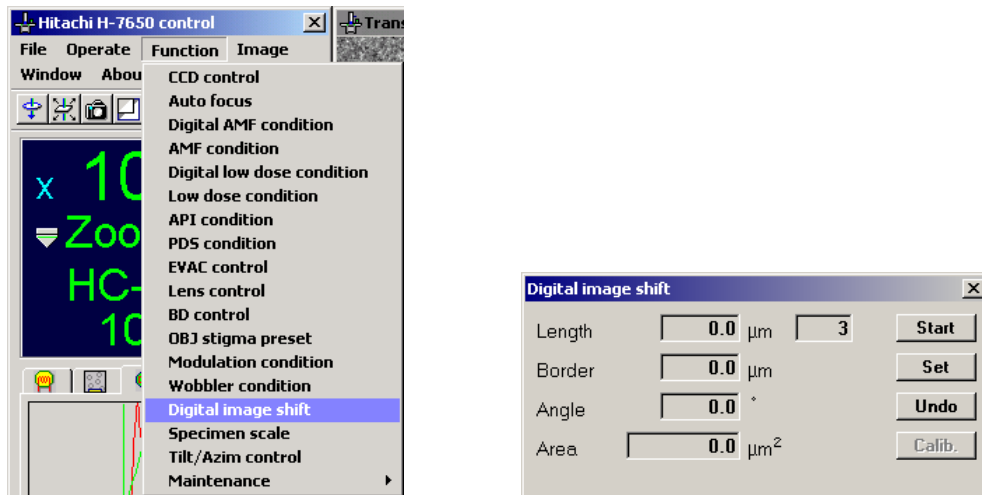

Fig. 3-170 Digital image shift Menu Item and Digital image shift Window
- (1) Set the multi-knobs X and Y to ISF coil.
- (2) As shown in Fig. 3-170, click "Digital image shift" on the Function menu. The Digital image shift window will then appear.